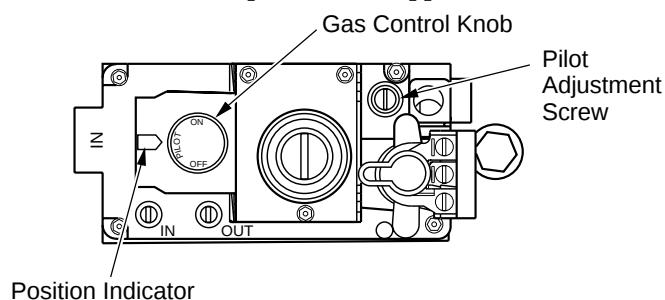

Figure 39 - Control Knob in the PILOT position
6. Turn gas control knob clockwise  to the OFF position (see Figure 39).
7. Wait five (5) minutes to clear out any gas. Then smell for gas, including near the floor. If you smell gas, STOP! Follow "B" in the safety information, column one. If you don't smell gas, go to the next step.
9. Push in the knob all the way and hold in. Immediately light the pilot manually. Continue to hold the control knob in for about (1) minute after the pilot is lit. Release knob and it will pop back up. Pilot should remain lit. If it goes out, repeat steps 5 through 9.
- Turn the adjustment screw marked pilot clockwise to decrease or counterclockwise to increase the flame to proper size (see Figure 39, page 18). Do not remove the adjustment screw.